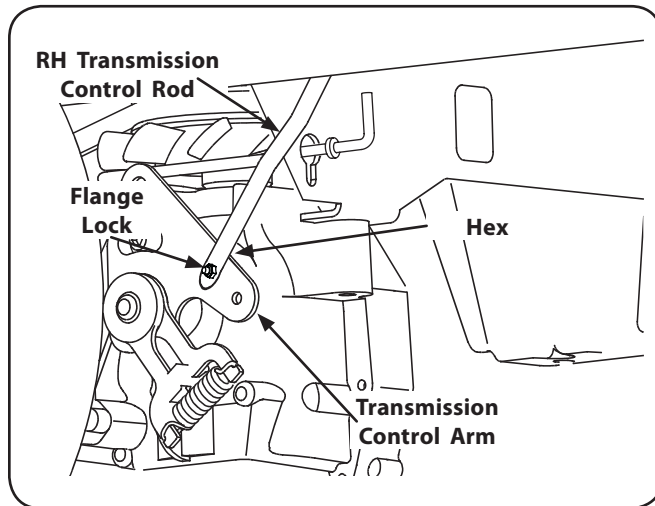

Figure 7-9
4. If only one wheel is rotating, locate the transmission control rod beneath the frame at the front of the rear tire. If both wheels rotate, locate both control rods. See Figure 7-9.